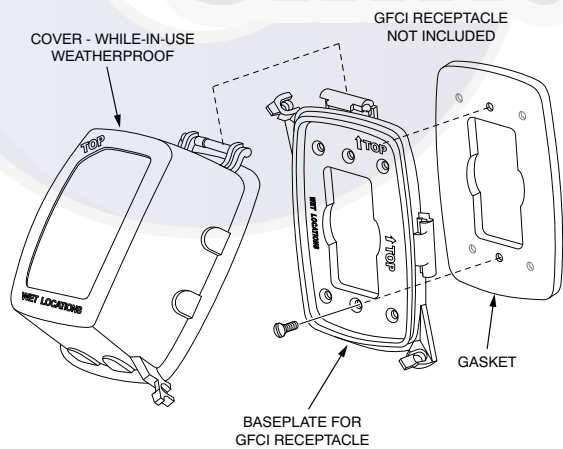

Fig. 43 - Weatherproof Cover Installation
4. Mount the weatherproof cover to the backing plate as shown in Fig. 43.